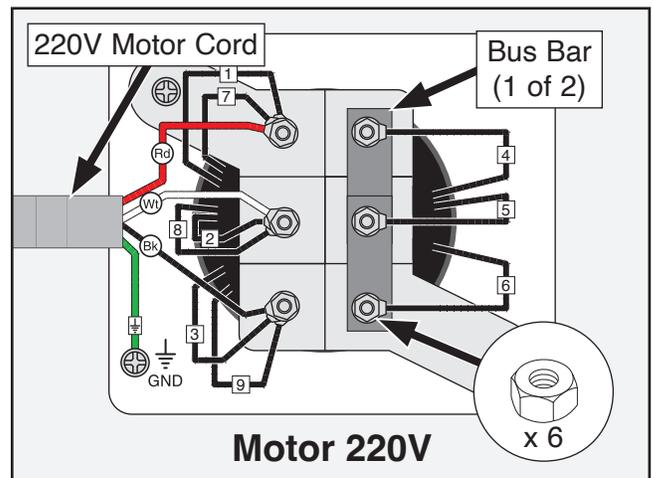

Figure 19. Components to remove in motor junction box.
- Remove (6) hex nuts and (2) bus bars securing wires in motor junction box, as shown in **Figure 19**.
- Remove 220V motor cord (see **Figure 19**).